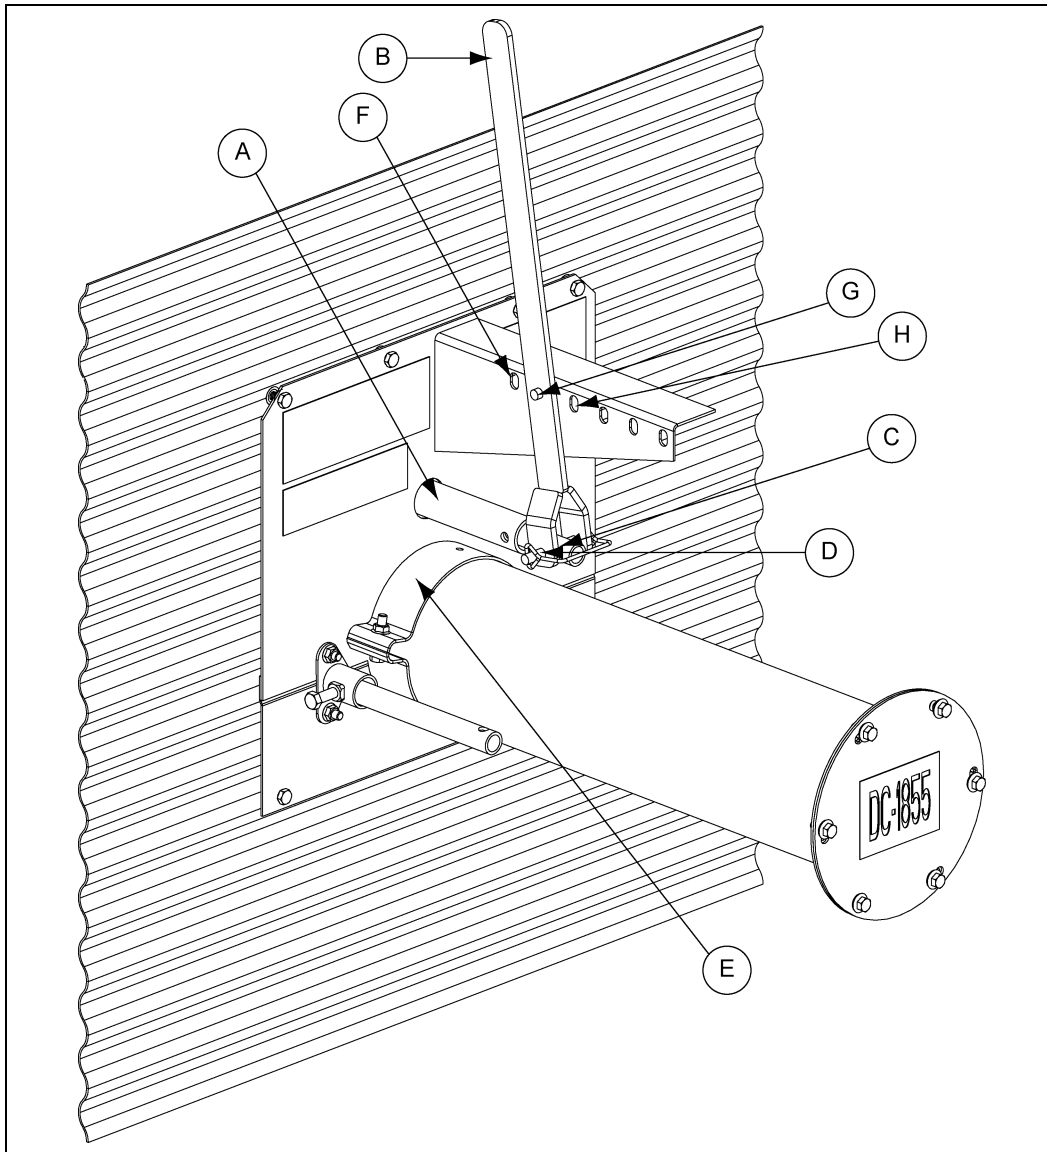

Figure 4M 6" Systems
3. Place the safety snap-on pin through the center well control rod and the control lever as shown in *Figure 4M*.